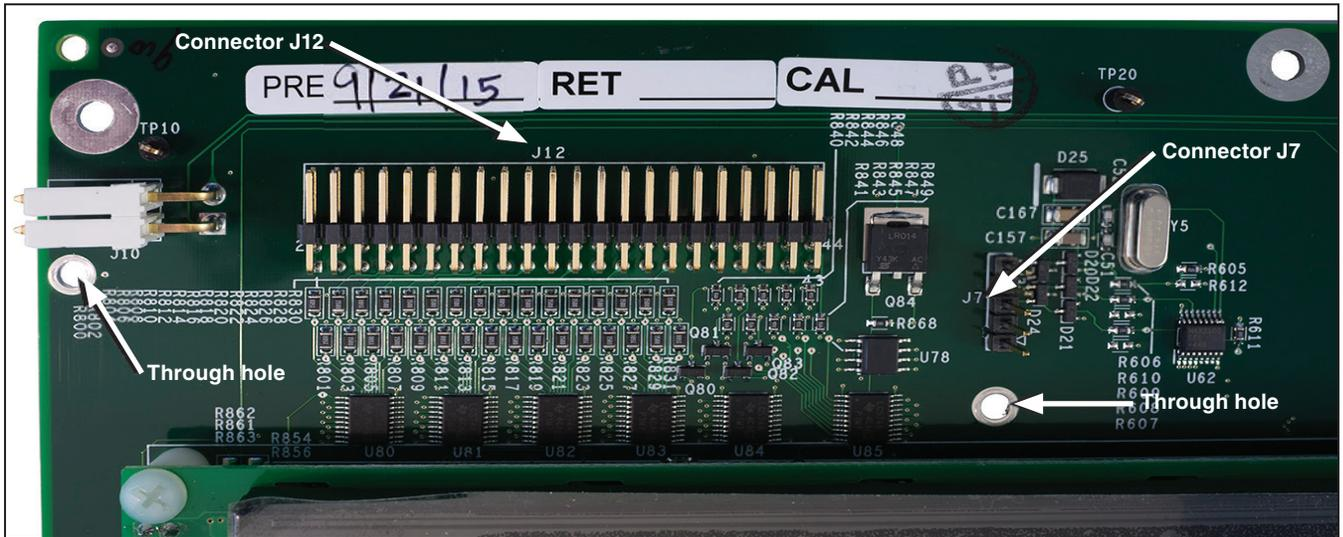
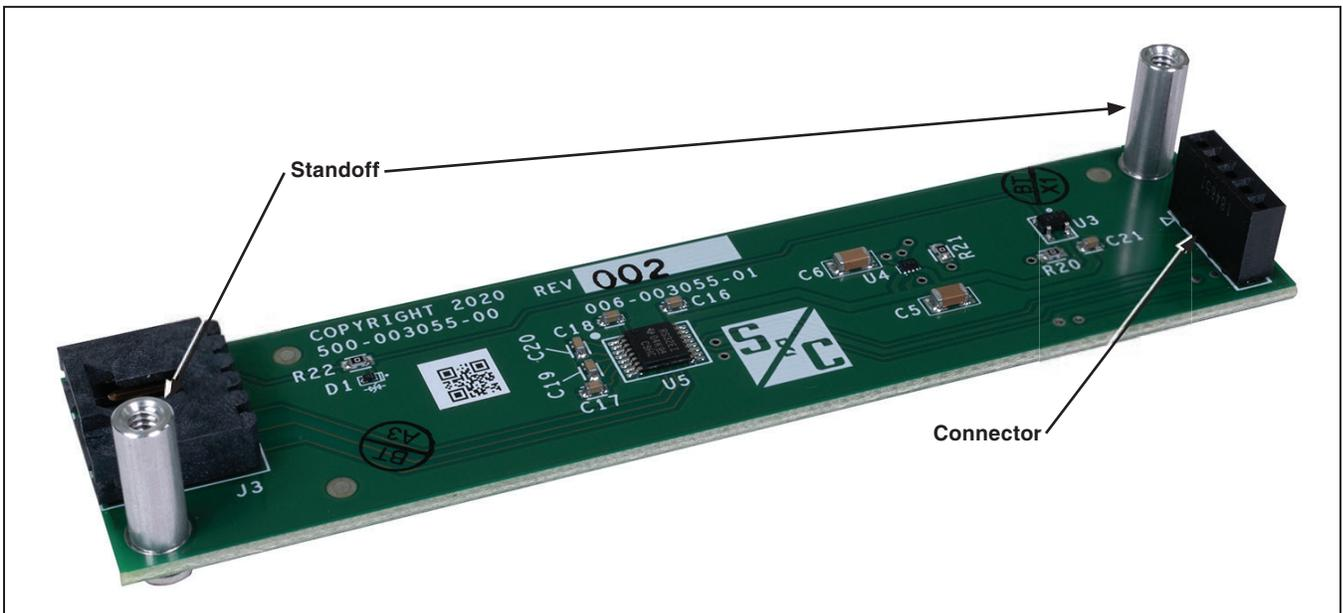
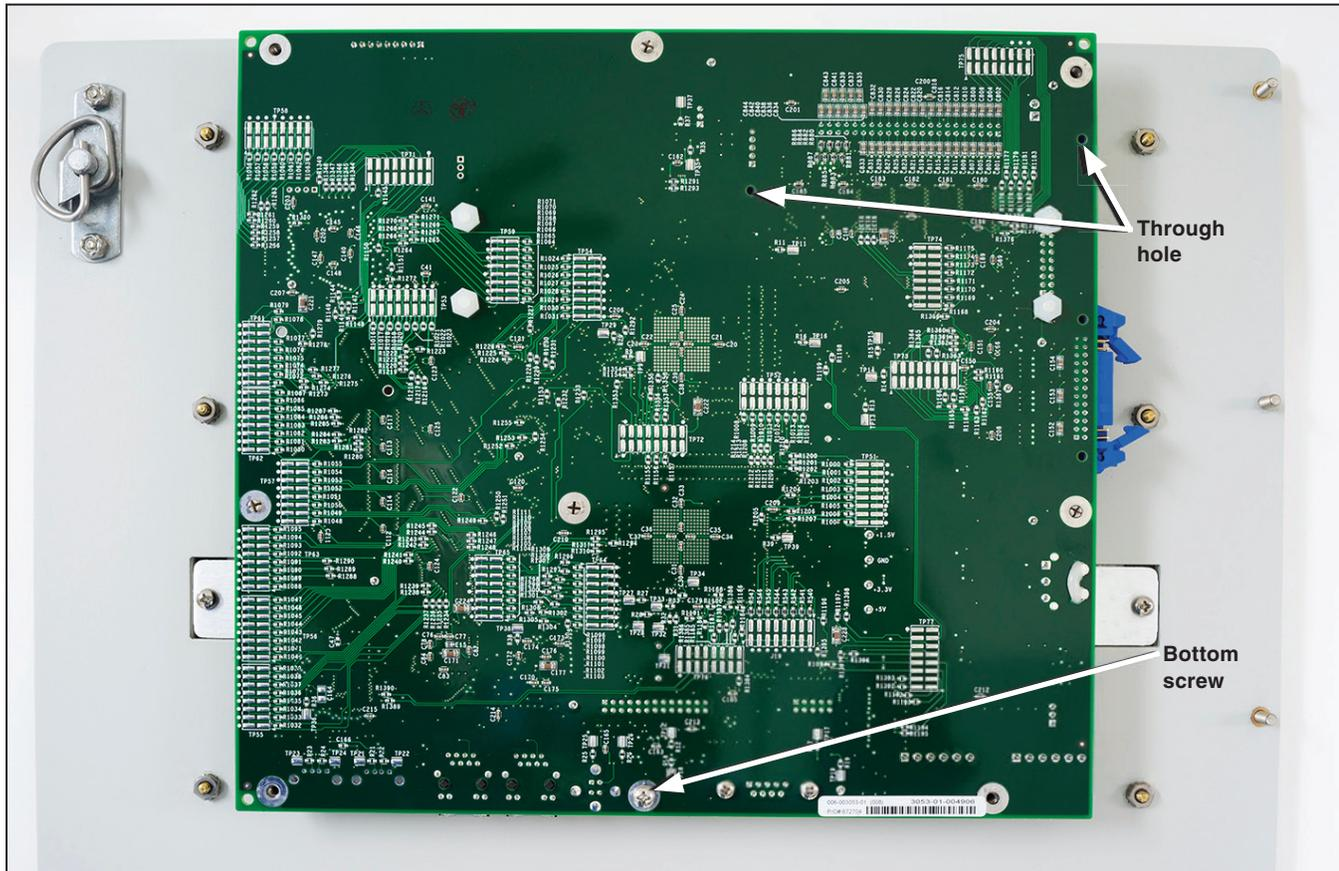

Figure 9. The processor board where the GPS intermediate board will be mounted.
Figure 10. A GPS intermediate board with standoffs attached.
Figure 11. The processor board reattached to the back of the front panel.
STEP 6. Remove the ribbon cable from connector J12 above the LCD screen. It connects the front panel switches to the processor board. See Figure 9.
STEP 7. Attach the two standoffs to the component side of the GPS intermediate board using screws and lockwashers. See Figure 10.
- STEP 8.** Attach the connector in Figure 10 on page 13 to the connector pins J7 in Figure 9 on page 13. Install the Phillips screws and lockwashers from the back of the processor board in the through holes as indicated in Figure 9 on page 13 and Figure 11.
- STEP 9.** Reattach the ribbon cable from the front panel switches to connector J12 above the LCD screen on the processor board. Be sure the connector attaches to both pin rows. See Figure 9 on page 13.
- STEP 10.** Mount the circuit board on the studs, and reinstall the bottom screw. See Figure 11.